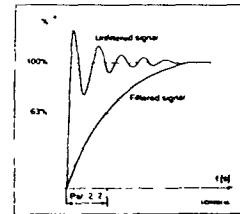

Figure 6.5-2 Vm signal filtering
- Filters out disturbances from the incoming analog Vm signal. A long filtering time makes the drive response slower. See figure 6.5-2